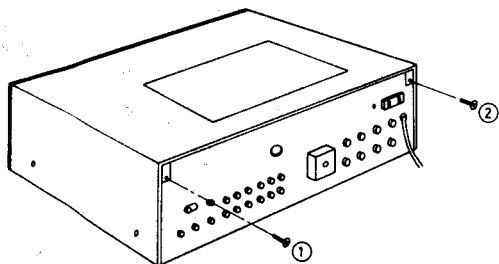

Fig. 7-1
1. Remove the two cabinet mounting screws (nos ①, ② screws in fig. 7-1).